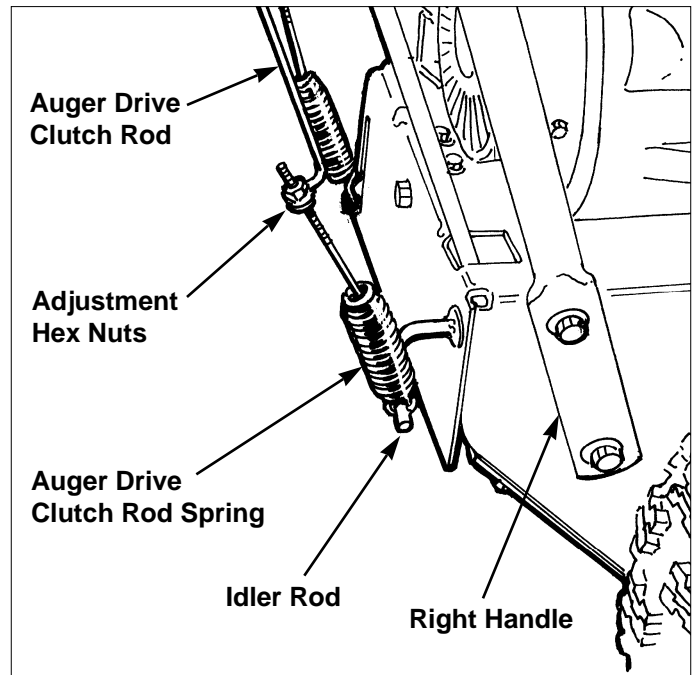

Figure 19. Auger Drive Clutch Rod Adjustment
1. Loosen adjustment hex nuts (Figure 19).